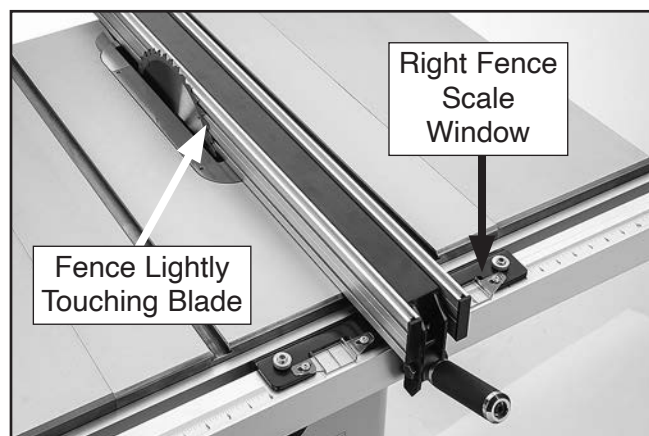

Figure 28. Fence scale calibration.
20. Slide fence so it lightly touches right side of blade (see **Figure 28**). Do not lock fence.
21. Nudge fence rail so zero mark of scale on right lines up with cross-hair in fence scale window (see **Figure 28**).